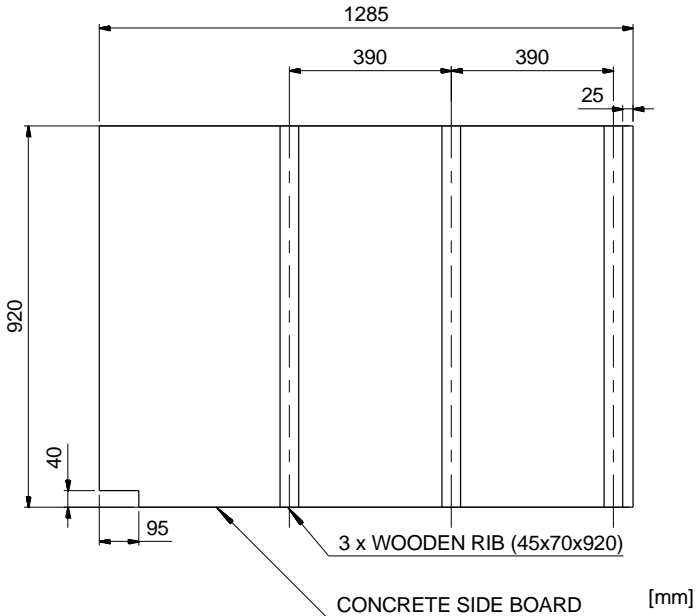

Figure 19. Dimensions for CONCRETE SIDE BOARD Assy unit. (Art. 11536)
- 4.1 Use the CONCRETE SIDE BOARD Assy or cut twelve 70x45 wooden rafters to 920 mm in length and four pieces of 18 mm Formwork Plywood, complying to EN 636-3, to the format 1285x920 mm and cut out a notch in one corner as shown in Figure 19. Make four similar side board units according to these instructions, and then fix the rafters to the boards with wooden screws as in Figure 19.